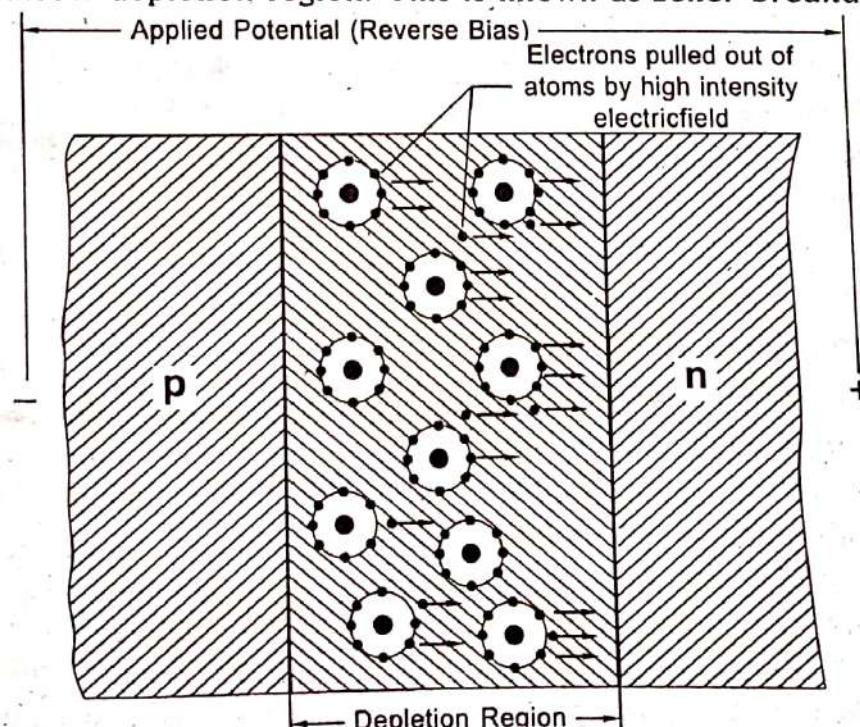

FIGURE 4.21 : Zener Diode
**Zener Breakdown :** Usually occurs in silicon *pn* junctions of reverse biased of less than 5 V. Under the influence of high intensity electric field large number of electrons within the depletion region break the covalent bonds with their atoms as shown in Fig. 4.21 and thus a large reverse current flows. This is ionization by an electric field. Since a small reverse voltage can produce a very high intensity electric field within a narrow depletion region. This is known as **zener breakdown**.